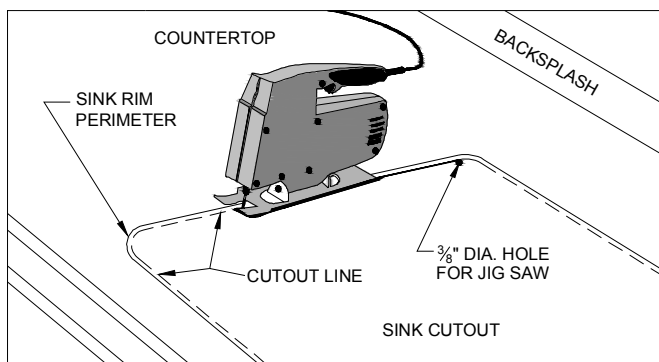

Figure 30D
- Using the jig saw, cut along the cutout line. (FIG. 30D)